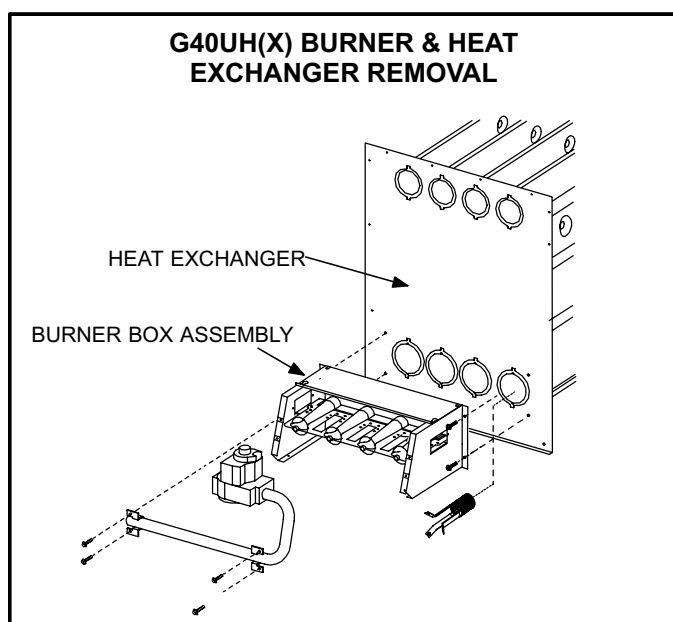

FIGURE 31
- 3 - Remove the four screws that secure the combustion air inducer. Carefully remove the combustion air inducer to avoid damaging blower gasket. If gasket is damaged, it must be replaced to prevent leakage. See figure 31.